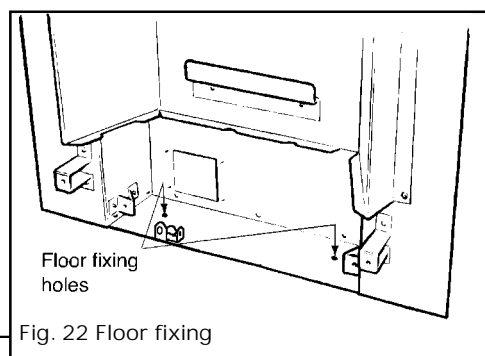

Fig. 22 Floor fixing
**7.2.9** Drill a hole into the fireplace floor through each of the two holes in the base of the convection box, using a no.12 masonry drill (see figure 22).